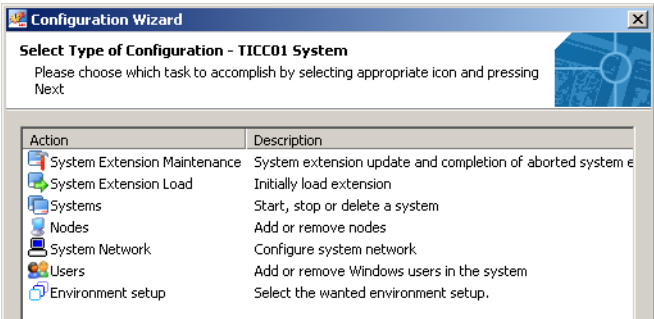

Figure 11. System Administration Dialog Box
- 1. In the System Administration dialog box, see Figure 11, select **Nodes** and click **Next**.
1. In System Administration dialog box, see Figure 11, select **Nodes** and click **Next**.